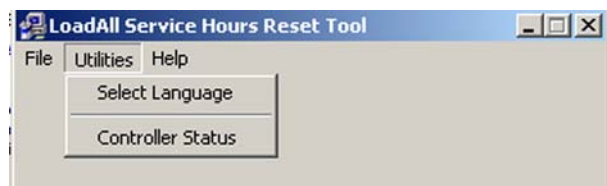

Fig 10.
- 6 Open the utilities menu and click on "Select Language". ⇒ Fig 10. \(M2-11\)